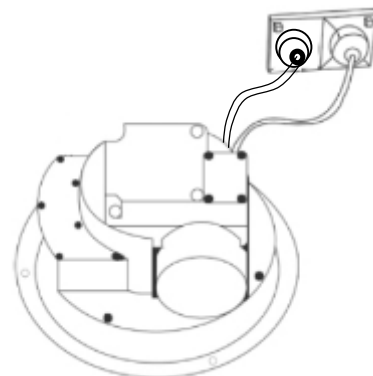

Fig. 3 – Connect the power
9. Insert fan power cable and LED light cable into the ceiling hole and plug them into the power point sockets in the ceiling as previously installed by a licensed electrical contractor. (Fig 3)